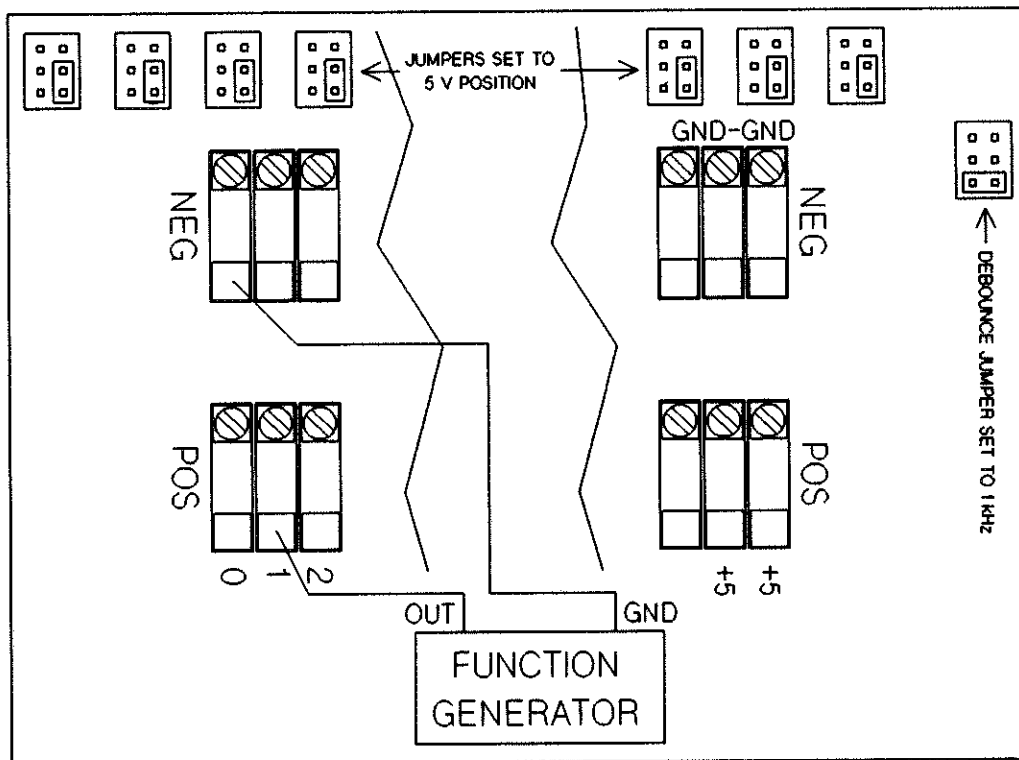

Figure 12-13 Odd Channel Input/Totalize Test
16. Connect the function generator to the shorted odd channel POS (positive) connections and the GND (ground) connections. The connections are shown in Figure 12-13.